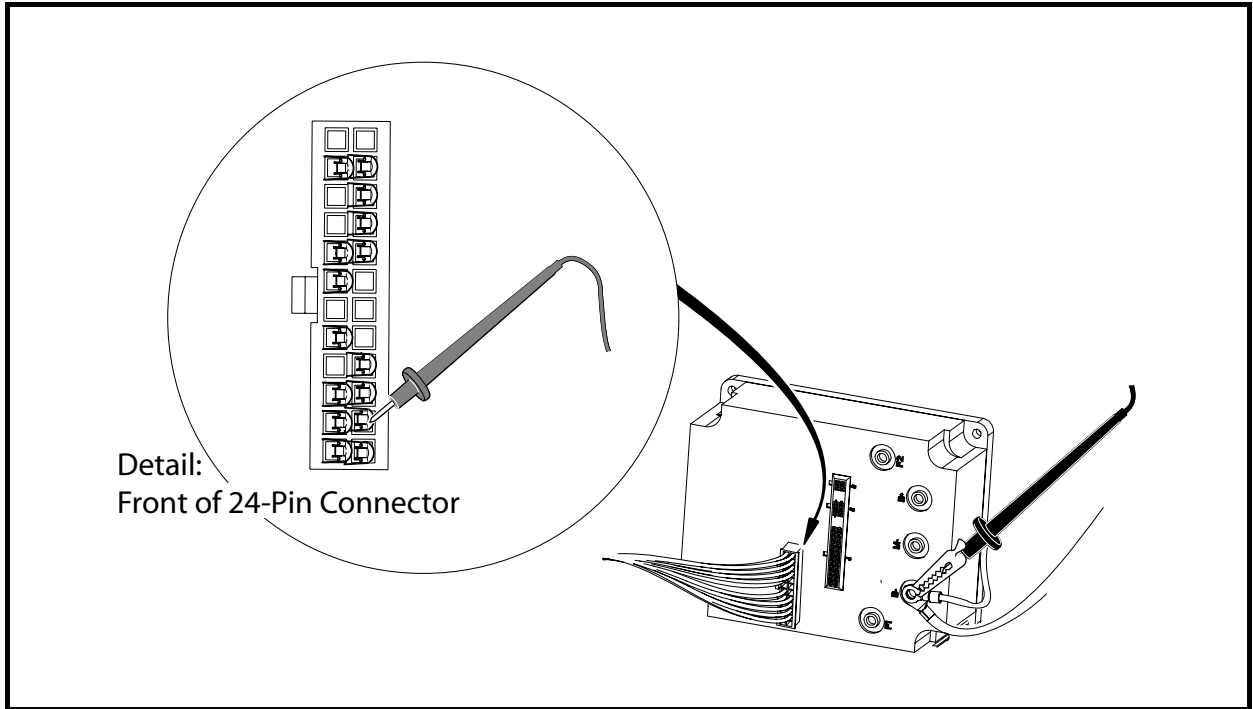

Figure 11-19 Test: Pin 2 (Light Blue Wire)
4. Set a multimeter to 200 volts DC. Insert the red (+) probe of the multimeter into pin 2 (light blue wire) of the 24-pin connector. **See following CAUTION.** Using an alligator clip, connect the black (–) probe to the B– terminal of the speed controller (**Figure 11-19, Page 11-29**).